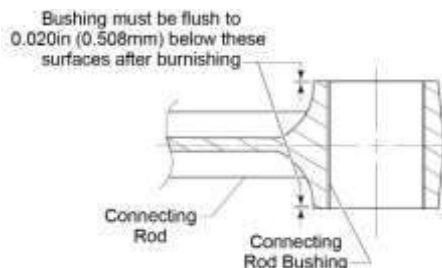

Figure 36
- G. Examine the bushing after installation to make sure the bushing is flush to 0.020 in. (0.508 mm) below the connecting rod surface (Figure 36) on both sides of the connecting rod.